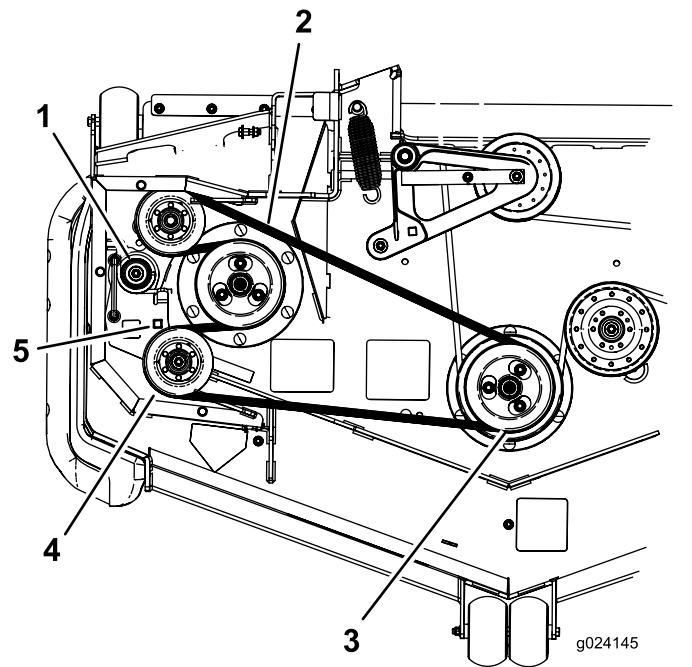

Figure 91
7. Use a ratchet in the square hole in the idler arm to remove tension on the idler spring (Figure 91).
8. Remove the belt from the mower deck pulley (Figure 91).
9. Remove the belt from the remaining pulleys (Figure 91).
11. Using the ratchet in the square hole, remove the tension on the spring, and guide the new belt around the idler pulley (Figure 91).